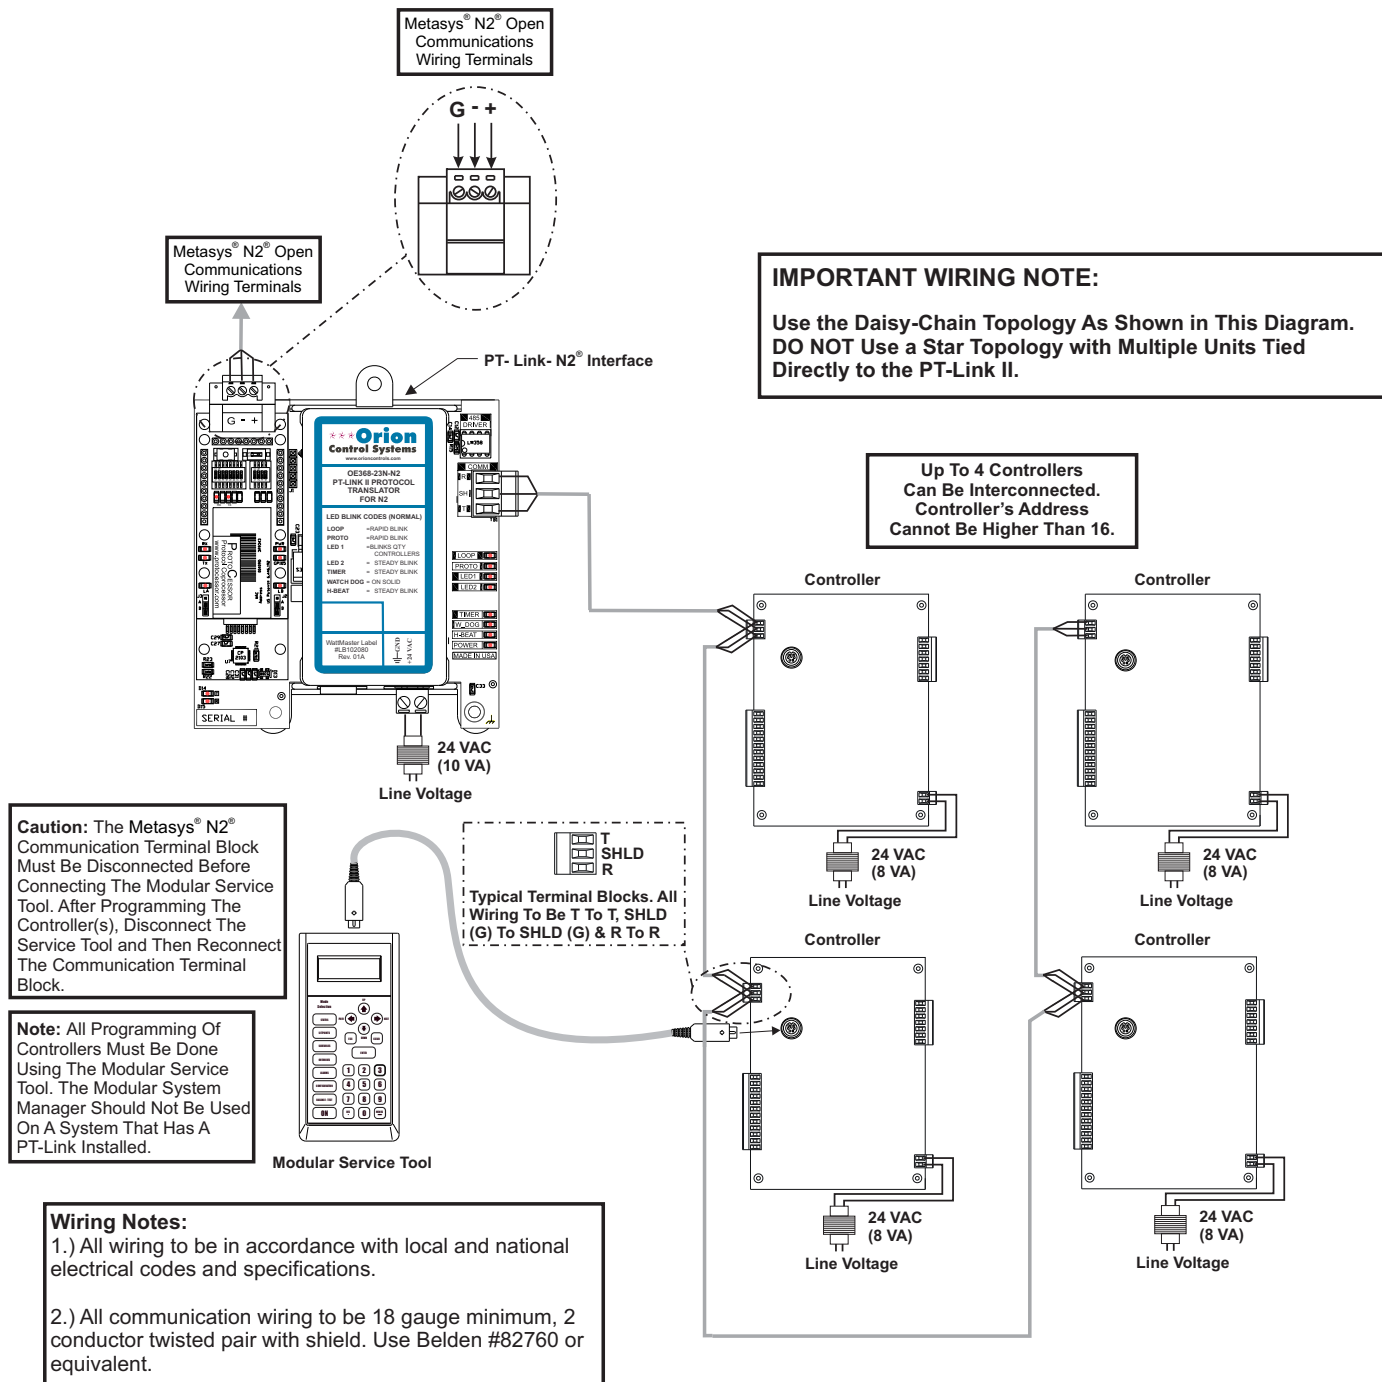

Figure 2: PT-Link II N2[®] Interface Wiring
2. Connect your PT-Link II to the Controller(s) on your system (up to four) and connect your PT-Link II to the N2 Network (**Figure 2**).